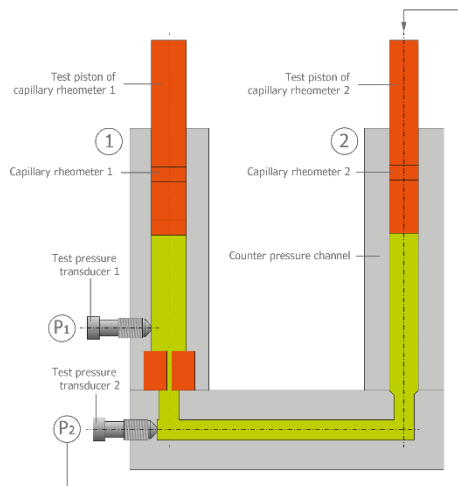

Figure 2: Counter Pressure Viscometer
The counter pressure viscometer offers the option of measuring cycles to carry out fully automatic viscosity functions fully at different pressure levels. Barrel (2) is controlling the counter pressure. After a flow curve has been determined, the material of capillary rheometer 2 is pressed into the barrel of capillary rheometer 1. Subsequently, another further flow curve can be measured at a different counter pressure. Figure 2 shows an example of a PE-HD at counter pressures of 100, 500, 1000 and 1500 bar. The flow curves are shifted due to the counter pressure against each other. The measured data can then be shifted to a master curve.